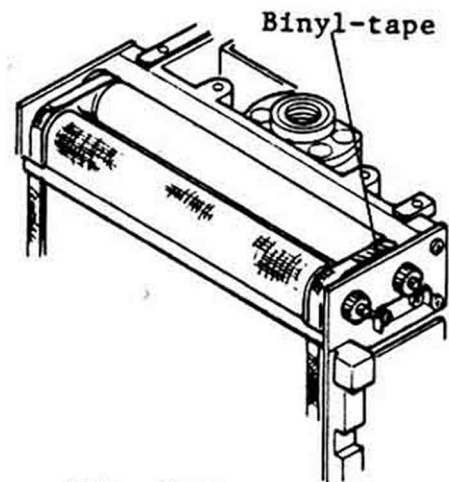

Fig. 27
2. Put the adequate length of Binyl-tape on the ribbon, if it would be required as shown in Fig. 27.